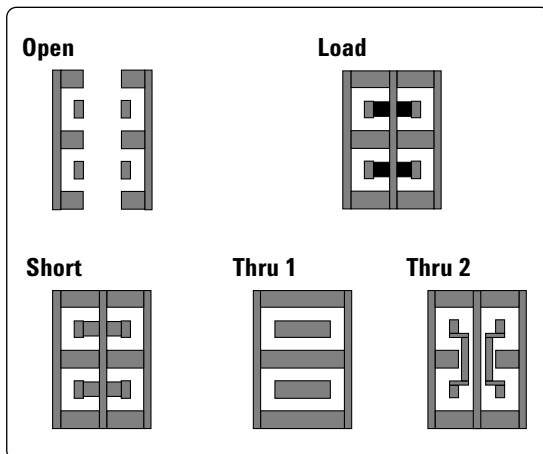

Figure 10. Calibration standards on balanced ISS
6. Define the thru standard. As shown in Figure 10, two different thru standards are used for thru calibration, so the both standards should be defined individually. Choose **[4.No Name]** and label the calibration kit in the **[Label]** menu for the Thru 1. It is named temporarily as **[Thru 1]**. Then choose **[Delay/Thru]** at **[STD Type]** menu and then enter the thru value in **[Offset Delay]**. The value of the thru delay to be entered should be calculated as described in Section 3-1. Typically, this thru delay is 1 psec. Choose **[5.No Name]** and label the calibration kit in the **[Label]** menu for the Thru 2, which has a shape of a square bracket.
As shown in Figure 10, the open, short, load, and thru calibration standards are available on the balanced ISS. Full 4-port error correction can be performed with these standards.